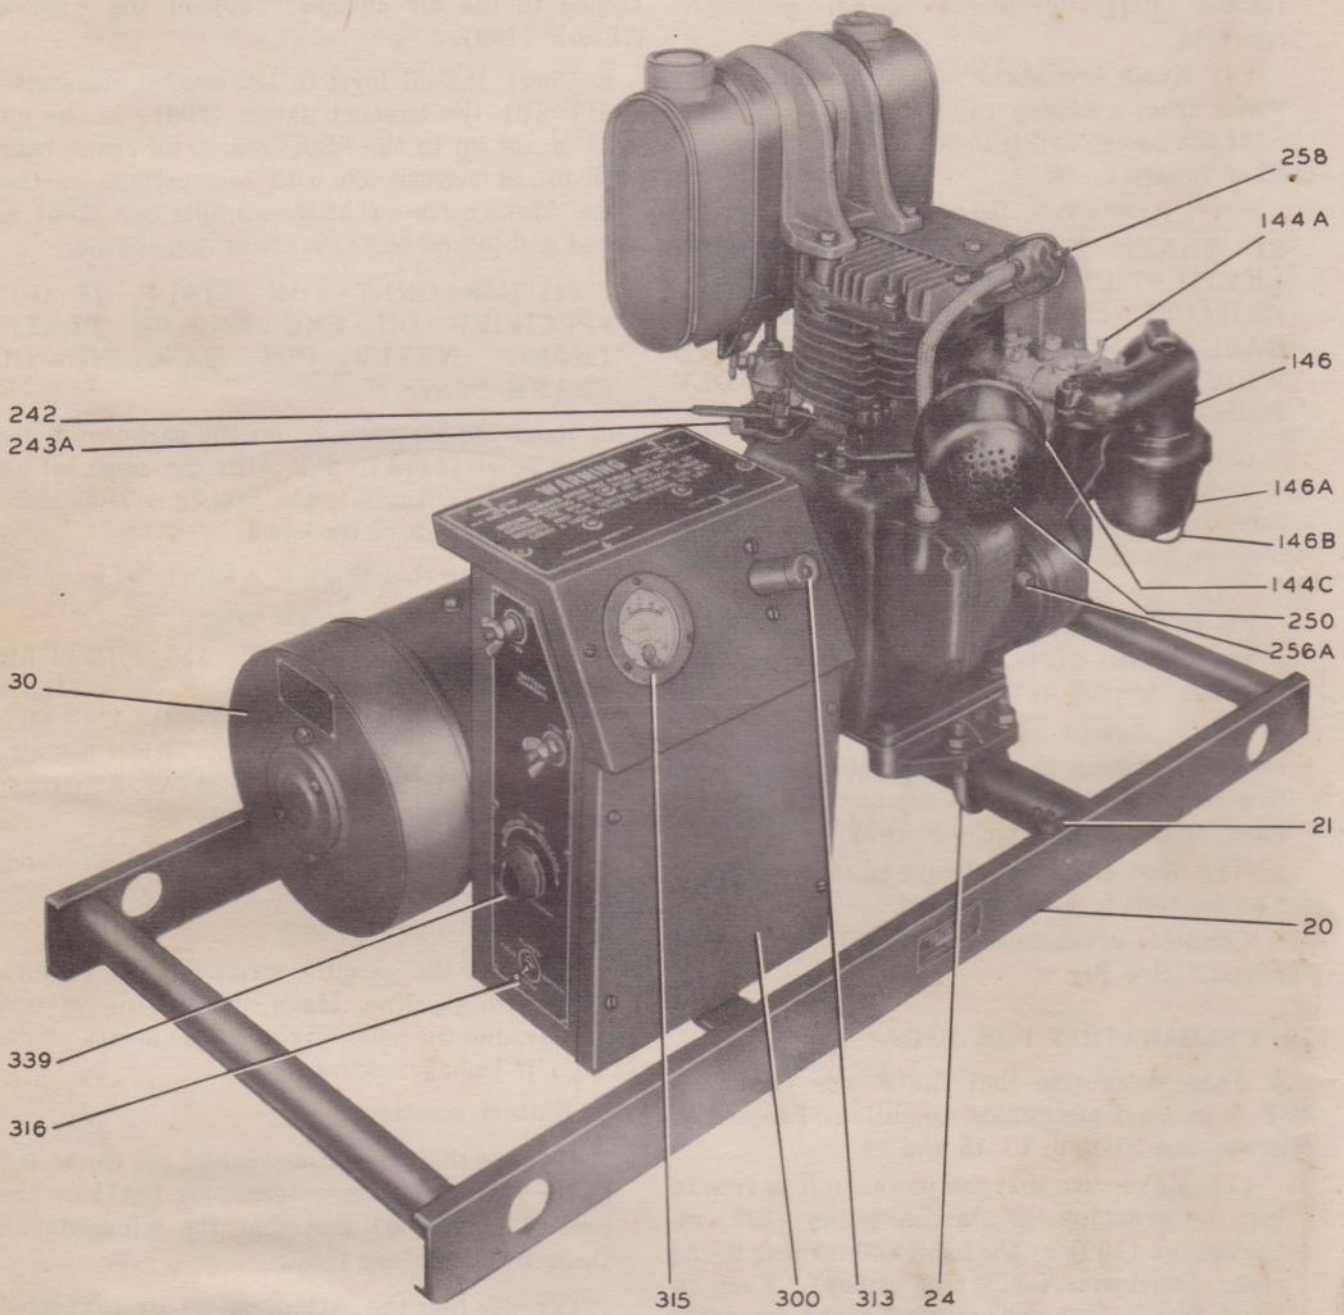

FIG. 9 POWER UNIT PE-49-F—FROM CONTROL BOX SIDE
(3) A piece of leader pipe, or any pipe large enough, between the muffler (250) and a window or door will help to conduct the exhaust gases of the Engine GE-9-F away.
d. The hood (3) must always be removed when the power unit is to be operated.
e. Connect grounding stud (21) to a good "ground." See Fig 9.
a. First determine that the Power Unit PE-49-F is in good mechanical condition. Proceed as follows: See Figs. 9, 10, 18 and 19.
(1) Make sure that the power unit is free to turn by grasping the starting pulley (239) on the engine (100) by the hand and turning to the right (clockwise facing the pulley). Keep in mind that a four cycle engine turns comparatively easy for about one and one-half revolutions but due to compression in the cylinder is hard to turn for approximately one-half turn. The resistance to turning due to compression is easily distinguished from mechanical obstructions as it is cushioned.
(2) Give the power unit a thorough visual inspection to make sure that no parts are broken, bent, or missing.
(3) Go over all bolts, nuts, and screws, and make sure that they are tight. Pay particular attention to the drain plug (253) and bolts holding the cylinder head (102).
b. Read the instructions on plate (220A) attached to the air shroud (220) of the Engine GE-9-F (100).
c. Check the oil level in the engine crankcase (101) with the bayonet gauge (208). If the oil level is not up to the "full" mark, fill crank case with oil in accordance with instructions on the plate. Make certain that the oil filler cap (208) is closed and locked before starting the engine.
c. Battery Starting. See Figs. 9 and 10.
(1) Set the engine speed control lever (242) midway between the stops.
(2) Set the choke (144A) in the closed position marked "CL".
(3) See that the field switch (316) is in the open position.
(4) Press the starting switch (313) with the palm of the hand until the engine fires. The choke will automatically open to approximately half-way position as soon as the engine begins to run.
(5) When the engine is running smoothly, open the choke completely.
(6) Move the engine speed control lever to the idling position (243A) and allow the engine to idle for several minutes. This is suggested to permit even warming up of the engine. This warming up period is particularly important in cold weather.
(7) After a reasonable wait, the engine speed control lever may be moved to the full speed position.
(8) WHEN STARTING A COLD ENGINE IN VERY COLD WEATHER, ALLOW THE ENGINE TO WARM UP AT REDUCED SPEED FOR AT LEAST 10 TO 15 MINUTES TO INSURE PROPER LUBRICATION.
(9) If engine should not run smoothly after warming up, adjust the carburetor by turning the carburetor needle valve (144C) slightly, in steps of one-eighth of a turn, either to the left or the right until engine runs smoothly.
(10) If engine should not fire at once after two 10-second applications of the starting switch, proceed as follows: